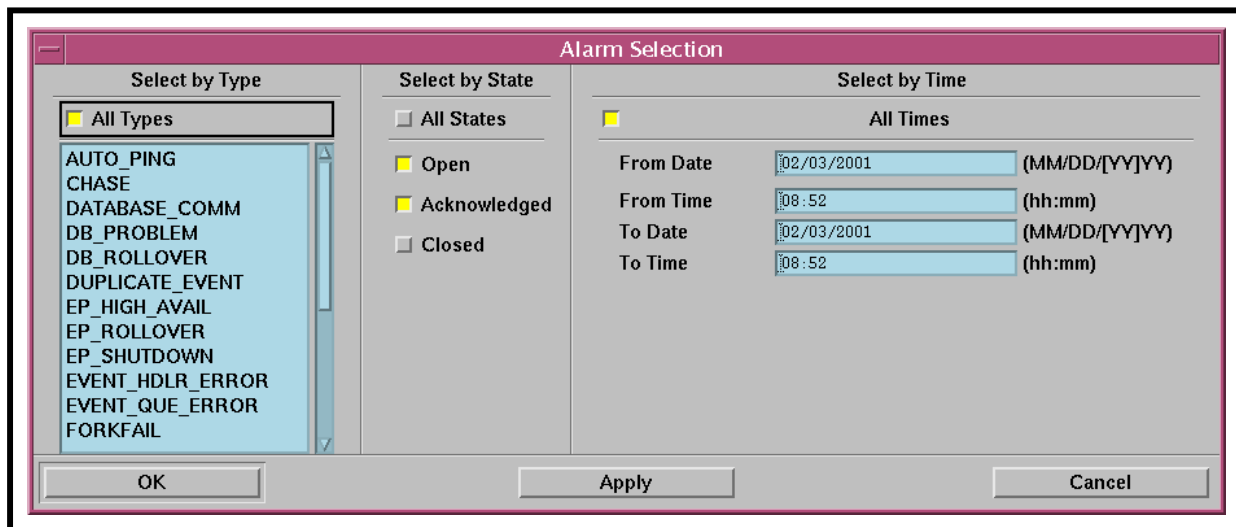

Figure 72. Alarm Selection GUI
- **Alarm Selection** GUI (Figure 72) is displayed.